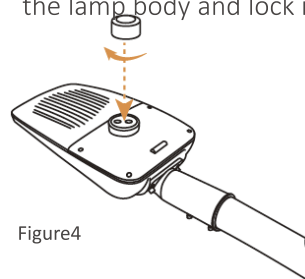

Figure 4
### ④ Install the Photocontrol, as shown in Figure 4.